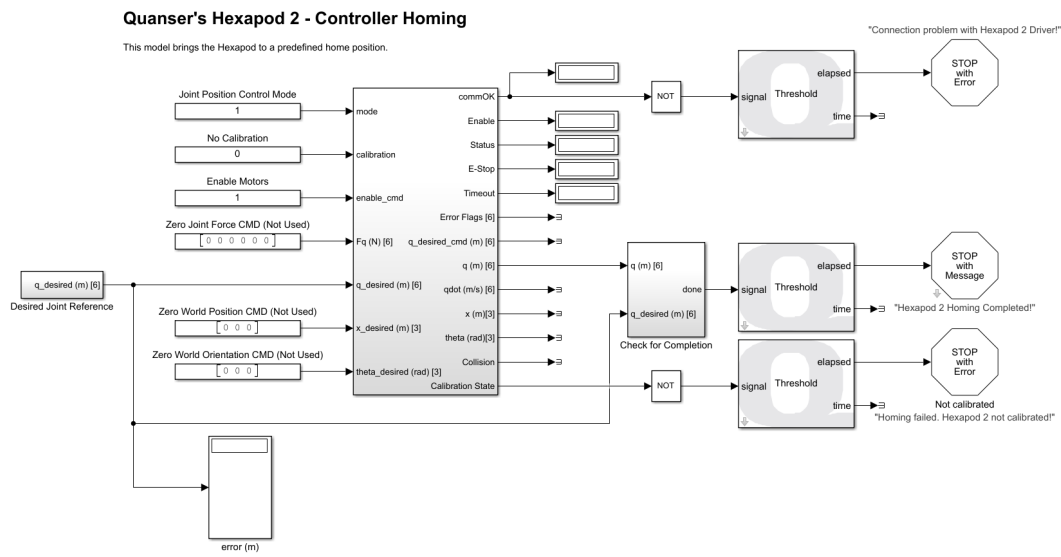

Figure 2.3: Simulink model used to home the Hexapod using QUARC.
Before running Hexapod2\_Controller\_Joint, Hexapod2\_Controller\_World, or any other position-based experiments, the stage of the Hexapod must be in the HOME position. This is defined when each base joint is at its mid-stroke position. The Hexapod2\_Controller\_Home Simulink model, shown in Figure 2.3, is ran with QUARC to center all the linear joints at the base.
4. Open the Simulink model called Hexapod2\_Controller\_Home, shown in Figure 2.3.